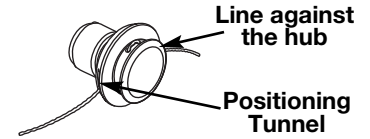

Fig. 17
4. While firmly holding the upper shaft boom (Fig. 17), pull the attachment out of the coupler.
5. Pull the line and make sure the line is against the hub and is fully extended through the positioning tunnels (Fig. 17).